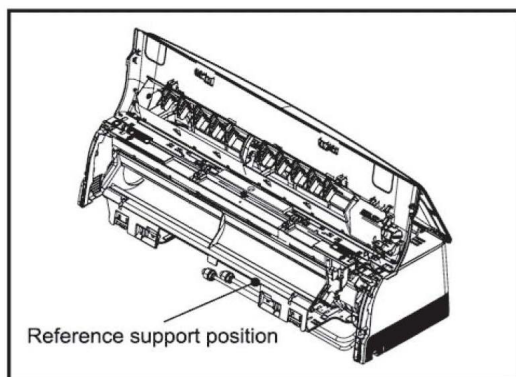
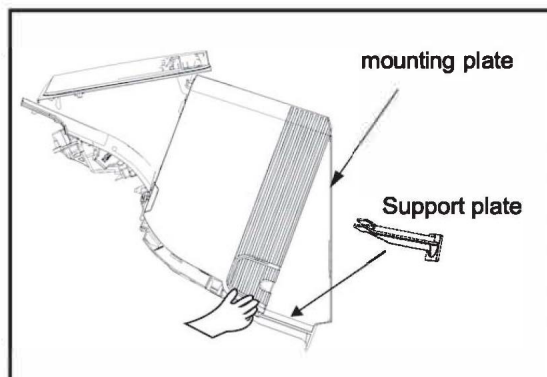

Fig. 417
Fig. 418
- 5) Use the support plate to move the unit step by step to reach the best location. (Fig. 417 and Fig. 418).